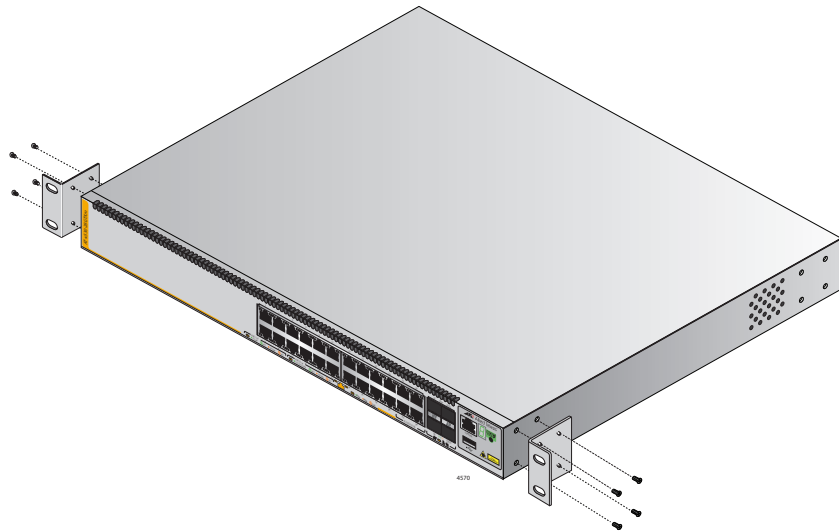

Figure 33. Example of Attaching the Brackets to the Switch
2. Attach the two brackets to the sides of the switch in the selected position, using the eight M4x6mm screws supplied with the unit. The illustration in Figure 33 shows the installation of the brackets such that the front panel of the switch is even with the front of the equipment rack.